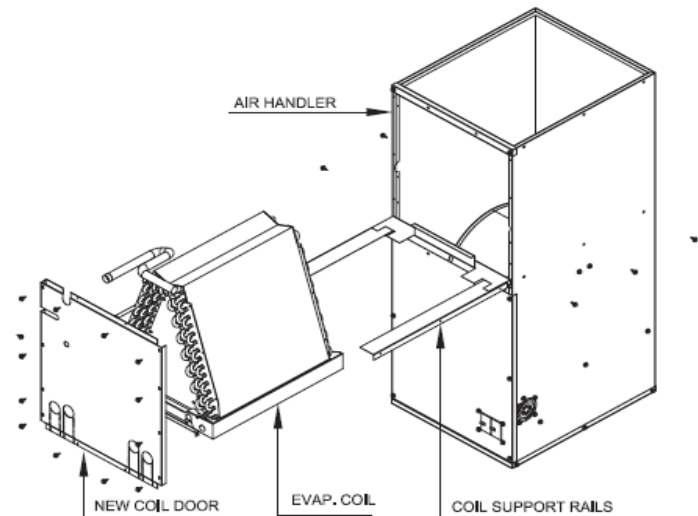

Figure 8: Evaporator Coil Assembly Converting to downflow operation.
6. Re-install the evaporator coil support rails in the holes provided in the unit casing as shown in Figure 8. Use the six (6) screws that were removed in step 4 to secure the evaporator coil support rails to the unit casing.
7. Re-install the cooling coil in the upright position as shown in Figure 8.
8. Remove the new evaporator coil access door from the kit and install over the evaporator section as shown in Figure 8.
2. Remove the evaporator coil assembly with the drain pan by sliding it out of the front of the unit as shown in Figure 8.